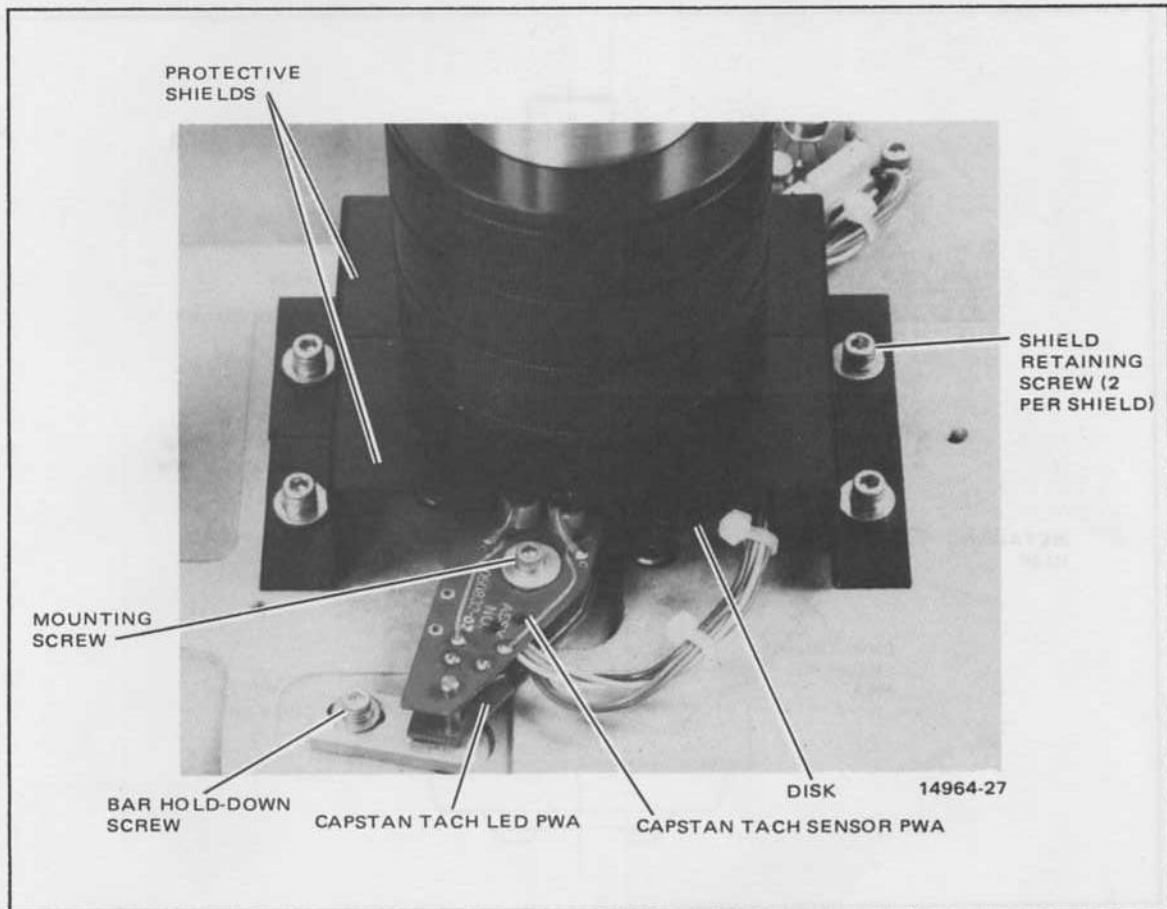

Figure 5-45. Capstan Tach Sensor PWA
In the following step, do not loosen or remove the bar holddown screw (Figure 5-45) that secures the capstan sensor bar. If loosened, adjustment of the Capstan Tach Sensor PWA position is required (paragraph 5-14).
- STEP 4 Remove Capstan Tach Sensor PWA by removing screw, lock washer, and flat washer (Figure 5-45), being careful not to scratch glass encoder disc or glass grating on underside of the Tape Timer Tach Sensor PWA.